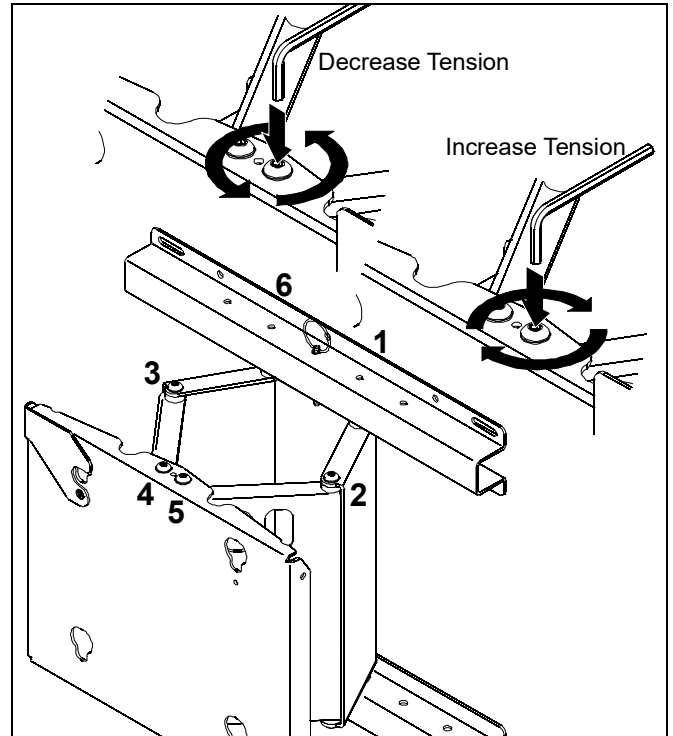

Figure 8
There are a total of 12 tension adjustment points on the mount (See Figure 8). Six on mount top, and six on mount bottom. Points 1 through 6 control mount extension and retraction tension. Points 1 and 6 control mount right left swing tension, and points 3 and 4 control display left right rotation tension.
NOTE: It is important that corresponding points are adjusted equally. **Example:** 1 and 6, 2 and 5, 3 and 4, and their corresponding adjustment points on mount bottom (See Figure 8).
2. Using the hex wrench provided, tighten or loosen adjustment screws until desired tension is achieved (See Figure 8).